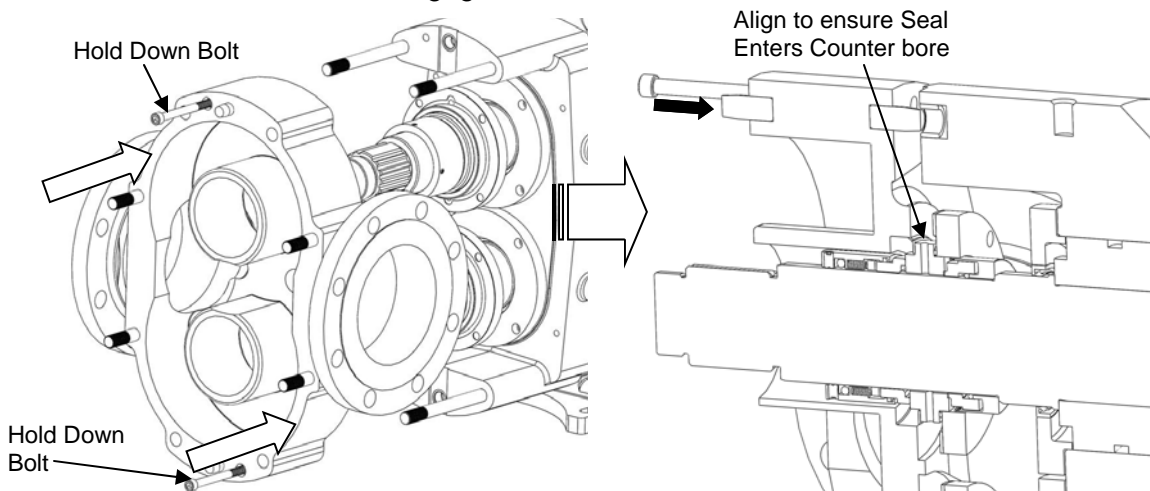

Figure 65: ZP1 320 Installing Pump Body
1) Make sure all seal components are installed by following “Seal Maintenance” instructions provided on pages 21-23. Ensure all dowels are in place and that all parts including body, rotors, and jam nuts are clean and free of foreign matter. Slowly slide the body over the gear case studs and shafts, ensuring the stationary seals enter the counter bores on the body without damage (Figure 65). Install the two hold down bolts and tighten the body against the gear case to ensure the dowels are engaged.